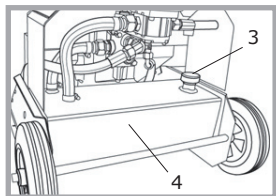

Abb. 3
The hydraulic oil tank (see Fig. 3) can be found in the base of the log splitter. The oil tank (4) is filled with hydraulic oil at the plant. Care must be taken when the log splitter is tipped far to the back during transport, because oil can leak out of the filling nozzle (3). Refer to page 17 for the replacement of hydraulic oil.